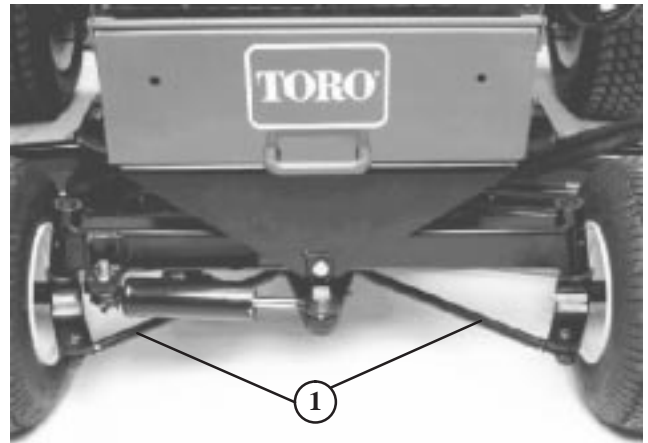

Figure 70
2. Loosen the jam nuts on both tie rods (Fig. 70). Adjust both tie rods equally until center-to-center distance at front of rear wheels is 0–1/8 in. (0–3 mm) less than at the rear of the wheels.